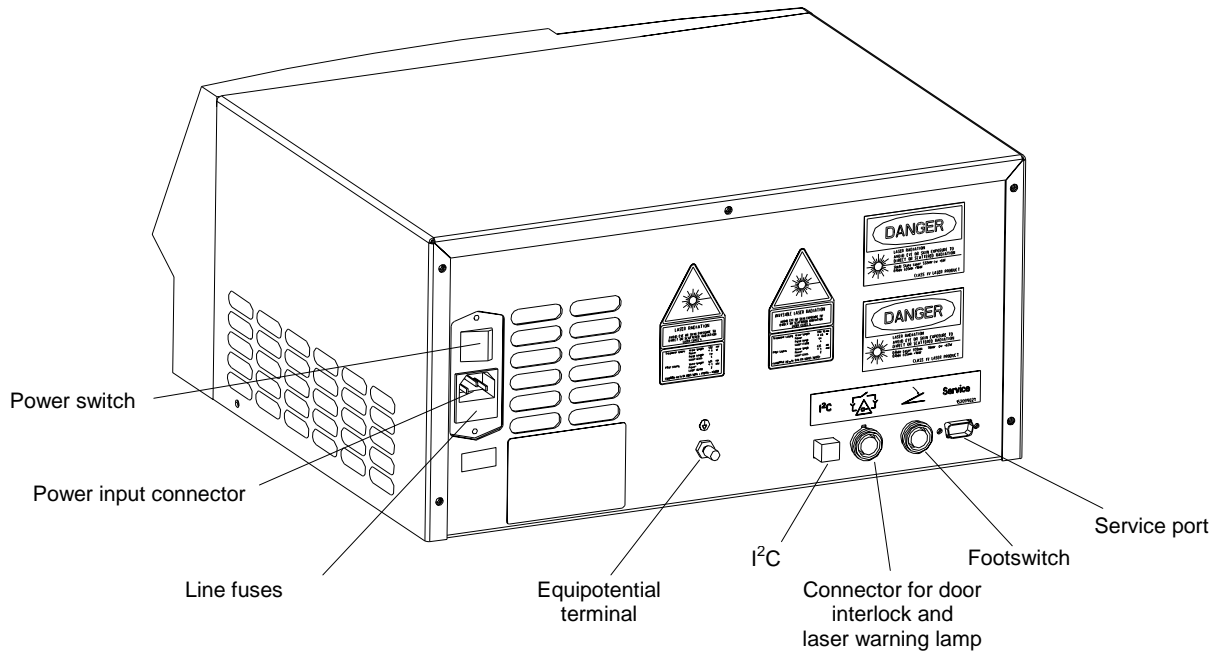

Figure 2: Connectors on rear panel of device
Now, connect the footswitch to the footswitch connector provided at the rear panel of the device (refer to *Figure 2, page 12*). Make sure to insert the plug as far as it will go. Then, lock it by turning the cap nut clockwise.
- Switch the power switch on the rear panel of the device (see *Figure 2, page 12*) to I (ON).